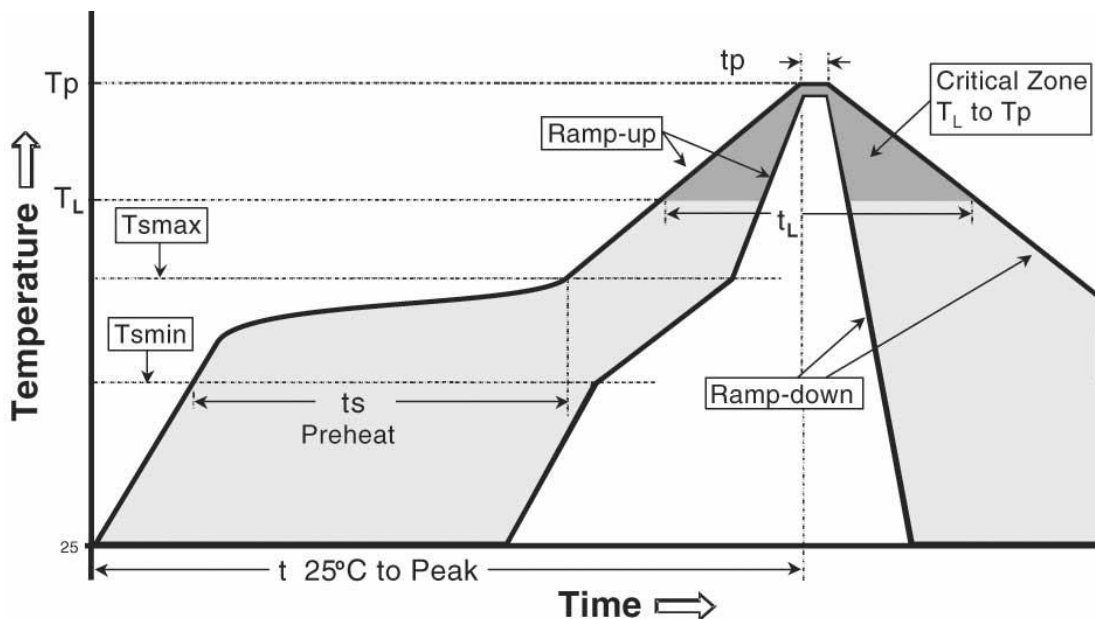

Figure 8 – Temperature profile.
2. Perform a reflow process according to the temperature profile detailed in Table 4, Figure 8.